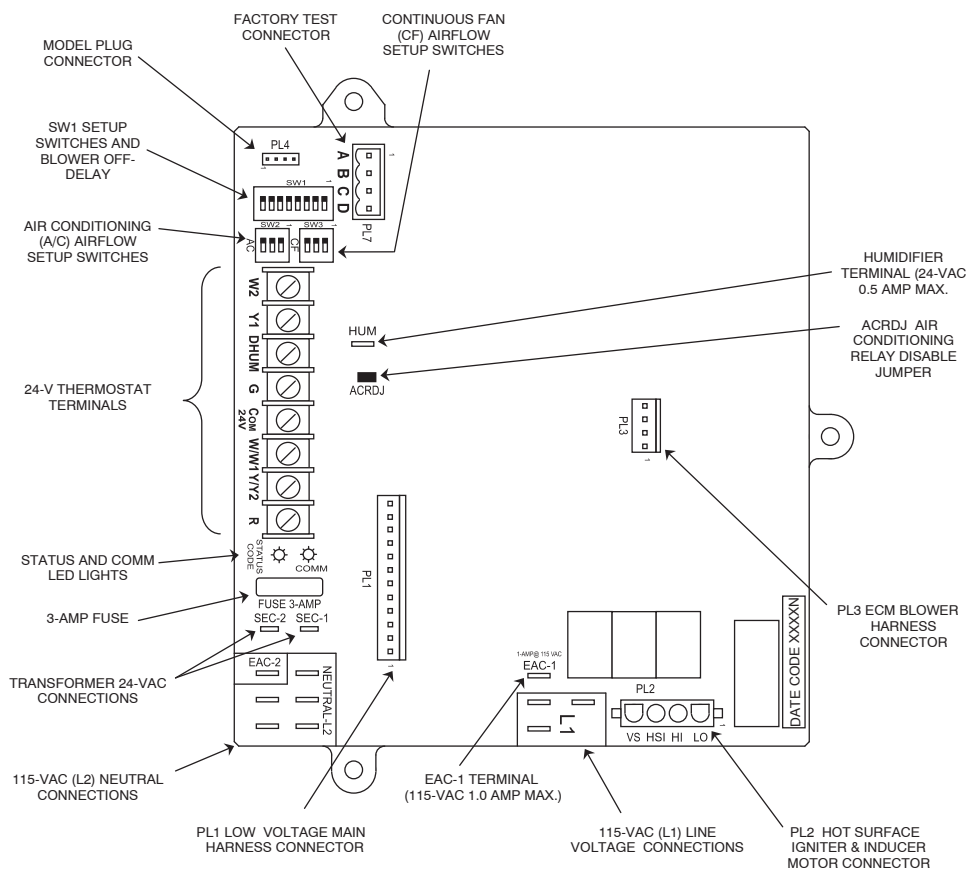

Fig. 16 - Variable Capacity Furnace Control
The 24-v circuit contains an automotive-type, 3-amp fuse located on the furnace control. (See Fig. 16.) Any direct shorts of the 24-v wiring during installation, service, or maintenance will cause this fuse to blow. If fuse replacement is required, use **ONLY** a fuse of identical size. The furnace control LED will flash status code 24 when fuse needs to be replaced.
- e. Turn setup switch SW1-1 to ON position. (See Fig. 16 or 21 for location.)